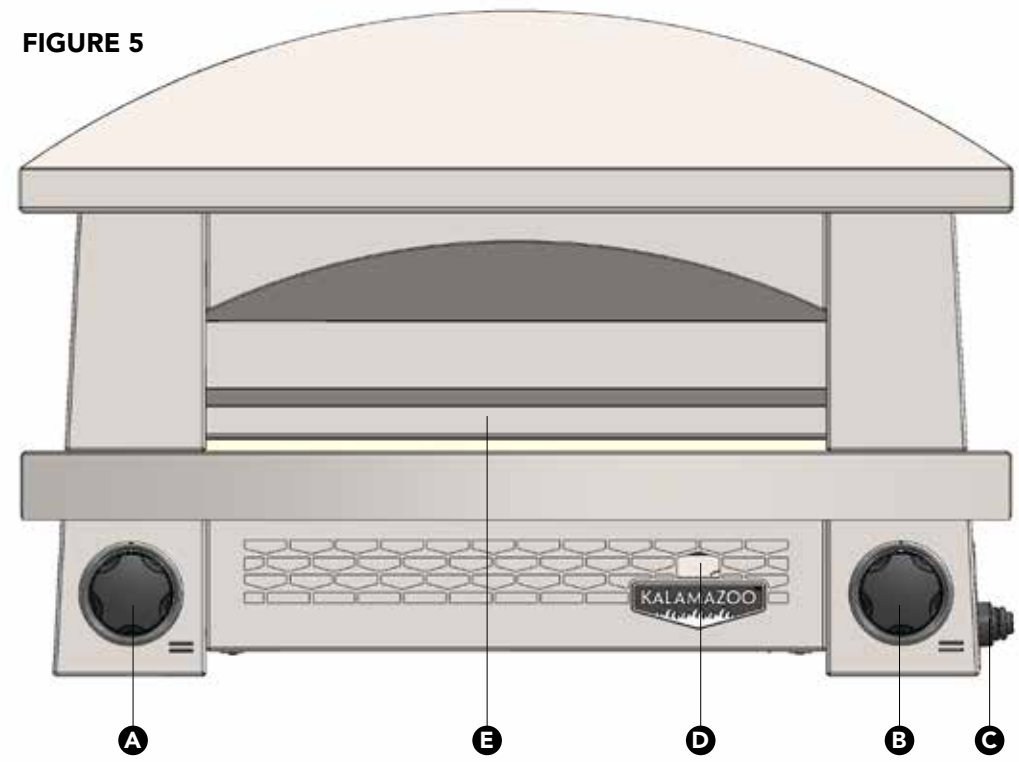

FIGURE 6
2. Make sure the LOWER BURNER and UPPER BURNER control knobs are in the OFF position (see Figure 6).